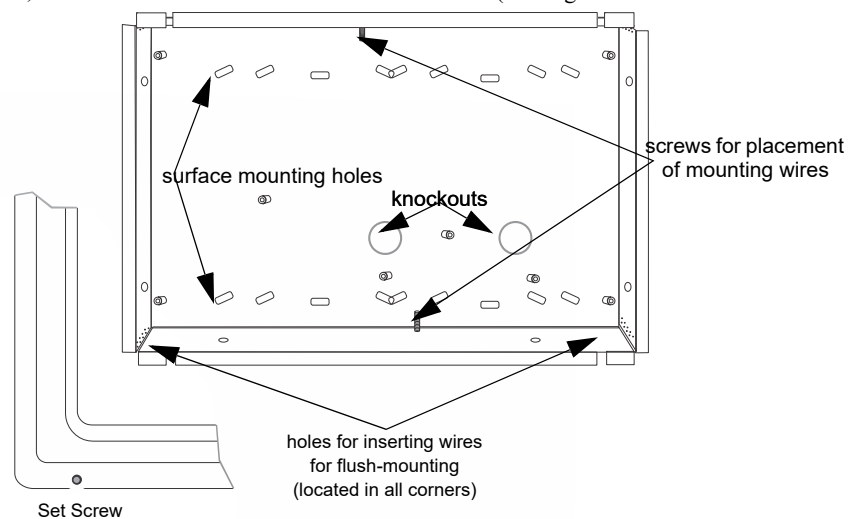

Figure 4.20 Annunciator Backbox and Bezel Details
The RA-1000 comes from the factory fully assembled. You must disassemble it for mounting. To disassemble the annunciator, use a 5/64" hex wrench to remove the set screws, located on the bottom of the annunciator bezel. (See Figure 4.20 for location of the set screws.)
1. Drill holes in the surface to match the screw holes on the backbox. Refer to Figure 4.20 for locations.
5. Replace the electronic assembly in the backbox. Place the bezel over the backbox and tighten the set screws on the bezel. Refer to Figure 4.20 for location of set screws.